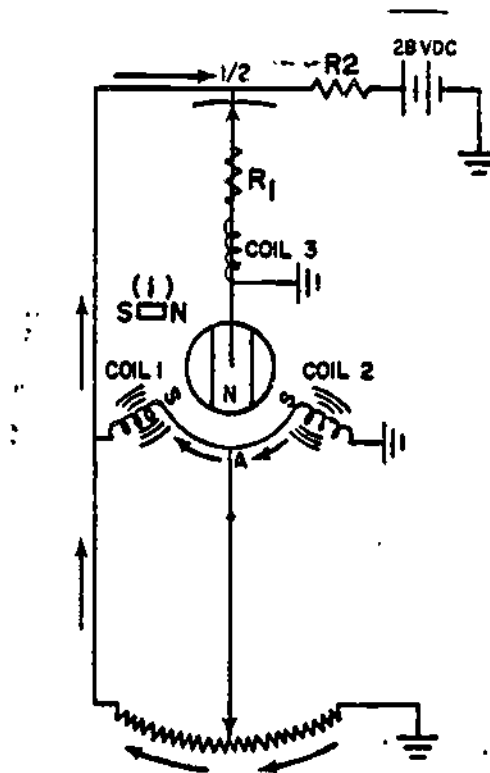

Figure 10
The ratiometer movement of the indicator has a permanent magnet as a rotor. This movement also includes two stationary coils, called deflection coils, mounted 120° apart. These coils, 1 and 2, are used to deflect the permanent magnet rotor when current flows through them. See figure 10. Included in the indicator is a pull off magnet (1) that is used to pull the pointer to an off scale position when power is removed from the circuit.
The third coil is known as the scale length coil 3. You can see this coil in figure 10. It determines the range of the pointer movement. Resistor R1 limits the amount of current flow in coil 3. By limiting the current flow in coil 3, this resistor is actually controlling the magnetic field strength of coil 3. Thus, resistor R1 would be of one value for a 65° range indicator and another value for a 90° range indicator. For a 120° range indicator, coil 3 is wound to change the magnetic polarity of the coil. Resistor R2, shown in figure 10, is used to protect the circuitry from damage due to the deflection coils shorting.